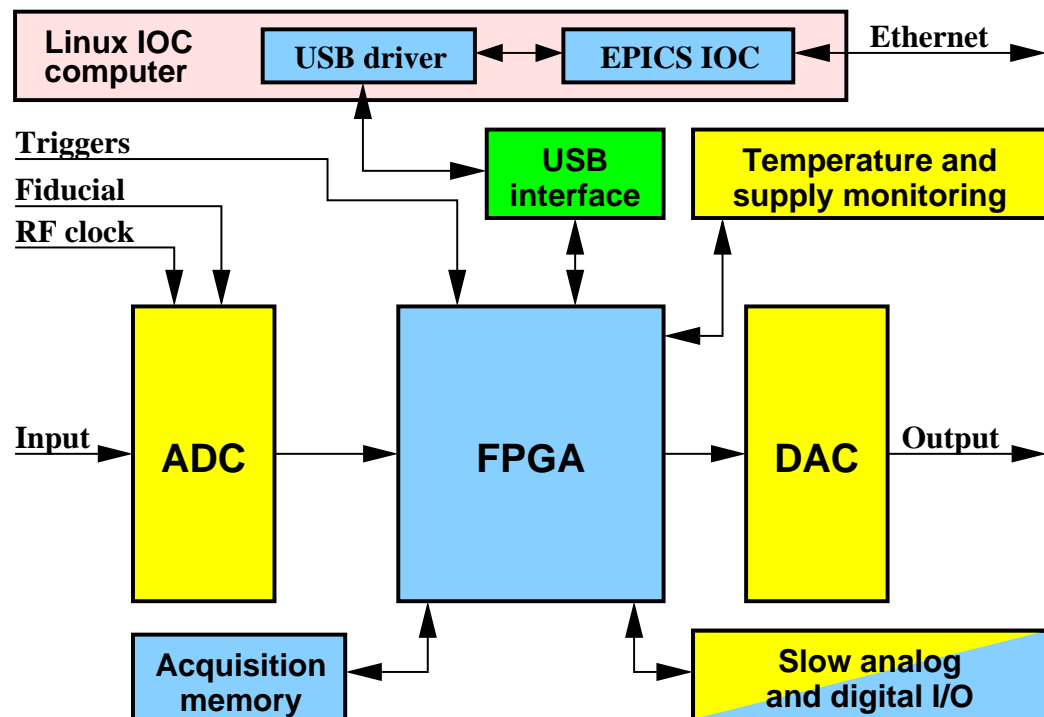

Figure 1: iGp-312F block diagram
A block diagram of the iGp-312F system is shown in Figure 1. The main signal processing chain consists of a high-speed analog-to-digital converter (ADC), a field programmable gate array (FPGA), and a high-speed DAC and is driven by the radio frequency (RF) clock. In addition to performing real-time control computations, the FPGA interfaces to a number of on-board devices, such as high-speed data acquisition memory (static random access memory (SRAM)), low-speed analog and digital input/output (I/O), as well as temperature and supply voltage monitors. In turn, the FPGA uses an internal universal serial bus (USB) connection to communicate to an embedded input-output controller (IOC) computer housed in the same chassis. The IOC runs the Linux operating system and is connected to the overall control system via the Ethernet.